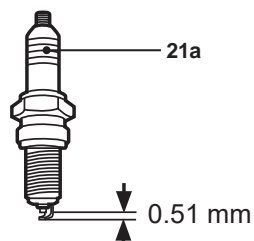

Fig. 29
6. Check the spark plug gap. It should be 0.7-0.8 mm (Fig. 29).
8. When replacing the spark plug (21a), first screw it in hand tight and then tighten it to 20-25Nm with the spark plug wrench (32).